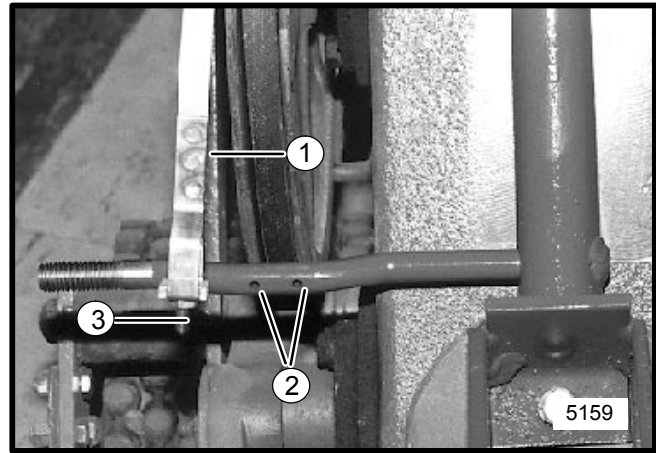

FIGURE 2
6. Slide adjustment end of brake band over the guard support rod as shown in Figure 2.
7. Insert one (1) cotter pin on each side of brake band, using the two (2) cotter pin holes shown in Figure 2. BE SURE the heads of the cotter pins are on the pulley side of the support rod to prevent interference between cotter pin and belt.